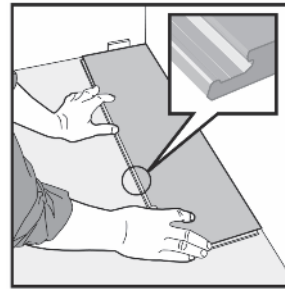
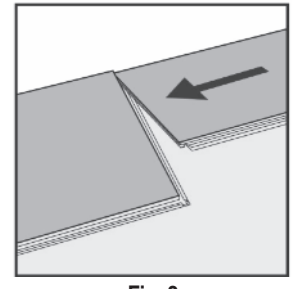
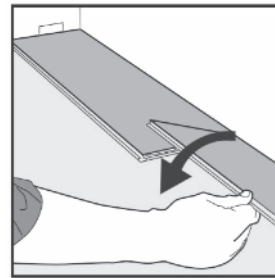
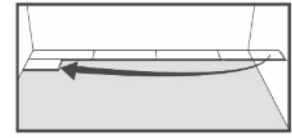

Fig. 1
Fig. 2
Fig. 3
Fig. 4
- Begin laying the floor in the left corner of the room. Dry lay a few rows (no glue or nails) before starting installation to confirm your layout decision and working line. Start the first row with the **tongue edge facing the wall.** Begin installing the first row by laying a board down flat on the subfloor (Fig. 1). Align the end of the second board (Fig. 2) with the first and simply push it straight down on top of first board (Fig. 3). Repeat this step to install the remaining boards in the first row. When cutting the last plank in a row to fit, you can use the cut-off end to begin the next row (Fig. 4). If cut-off end is less than 12", discard it and instead use one of the pre-cut row starter boards in the carton, or cut a new plank at a random length (greater than 12") and use it to start the next row.
- **Tapping Block - each flooring board is precision milled. To achieve correct engagement of the click profile, each board should first be snapped into place (Fig 3) then lightly tapped on the long side using tapping block. (Ref. Technical Bulletin #7.13.1)**
- Begin laying the floor in the left corner of the room. **ALL BOARDS SHOULD BE INSTALLED WITH THE TONGUE SIDE FACING THE WALL.** (See figure 1)
- Begin installing the first row by laying a board down flat on the subfloor (figure 4). Align the end of the second board with the first and snap end locking system together by simply pushing it straight down on top of first board. Repeat this step to install the remaining boards in the first row. Cut the last board in the row to the necessary length or use an end board that was supplied in the carton. If leftover piece is 12" or longer, use it to begin the next row, or use start board supplied in the carton. (figure 4).